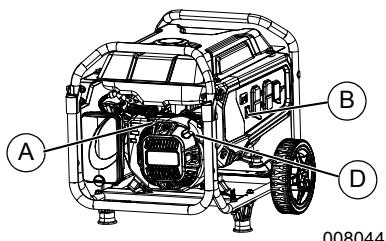

Figure 3-2.Engine Controls
3. See **Figure 3-2**. Open the fuel shut-off valve (A).
4. Turn engine RUN/STOP switch (B) to RUN. See **Figure 3-2**.
6. See **Figure 3-2**. Firmly grasp recoil handle (D) and pull slowly until increased resistance is felt. Pull rapidly up and away.